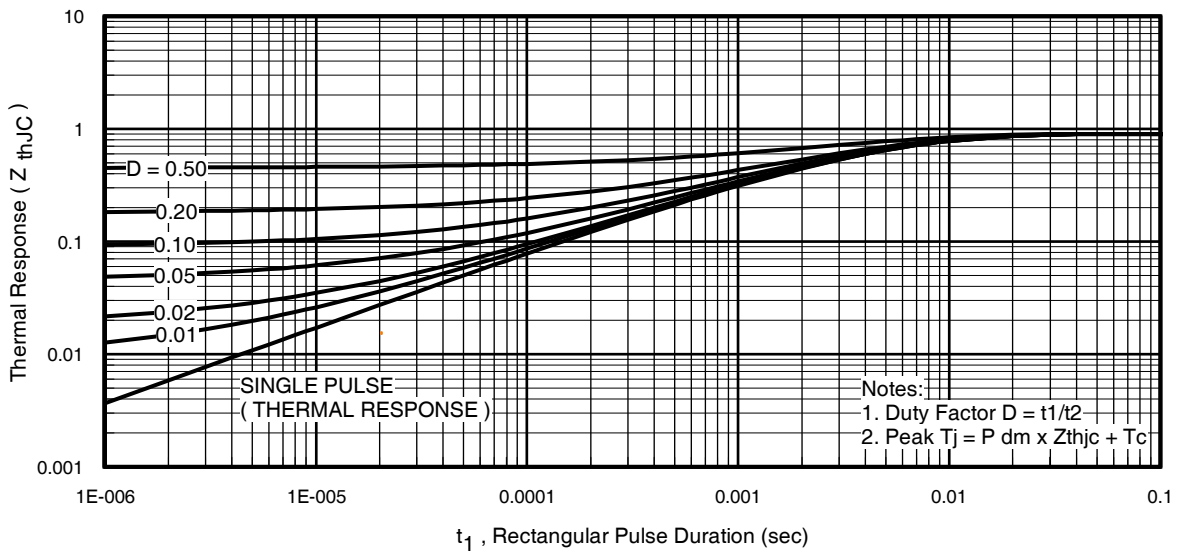

Fig 11. Maximum Effective Transient Thermal Impedance, Junction-to-Case
- ① Repetitive rating; pulse width limited by max. junction temperature. (See fig. 11).
- ② Limited by T_{Jmax} , starting $T_J = 25^\circ\text{C}$, $L = 0.12\text{mH}$, $R_G = 25\Omega$, $I_{AS} = 53A$, $V_{GS} = 10V$. Part not recommended for use above this value.
- ③ $I_{SD} \leq 53A$, $di/dt \leq 420A/\mu s$, $V_{DD} \leq V_{(BR)DSS}$, $T_J \leq 175^\circ\text{C}$.
- ④ Pulse width $\leq 1.0\text{ms}$; duty cycle $\leq 2\%$.
- ⑤ $C_{oss\ eff.}$ is a fixed capacitance that gives the same charging time as C_{oss} while V_{DS} is rising from 0 to 80% V_{DSS} .
$Z_{thJC}(D, t_{av})$ = Transient thermal resistance, see figure 11)